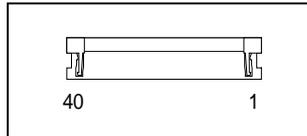

Figure 2.7.2 Connector appearance figure for LCD interfaces
CN11 is a connector for LCD interfaces. It has connected with the LCD output terminal of SM501. Please use it according to the specification of LCD which the user adopted. The supply voltage of LCD can be chosen in JP1. The connectors currently used are 40 FLH-SM1-TB (LF), and (SN) (made from the J.S.T. Mfg Co.,Ltd) The appearance figure of the connector for LCD interfaces is shown in Fig. 2.7.2, and signal arrangement is shown in Table 2.7.2.